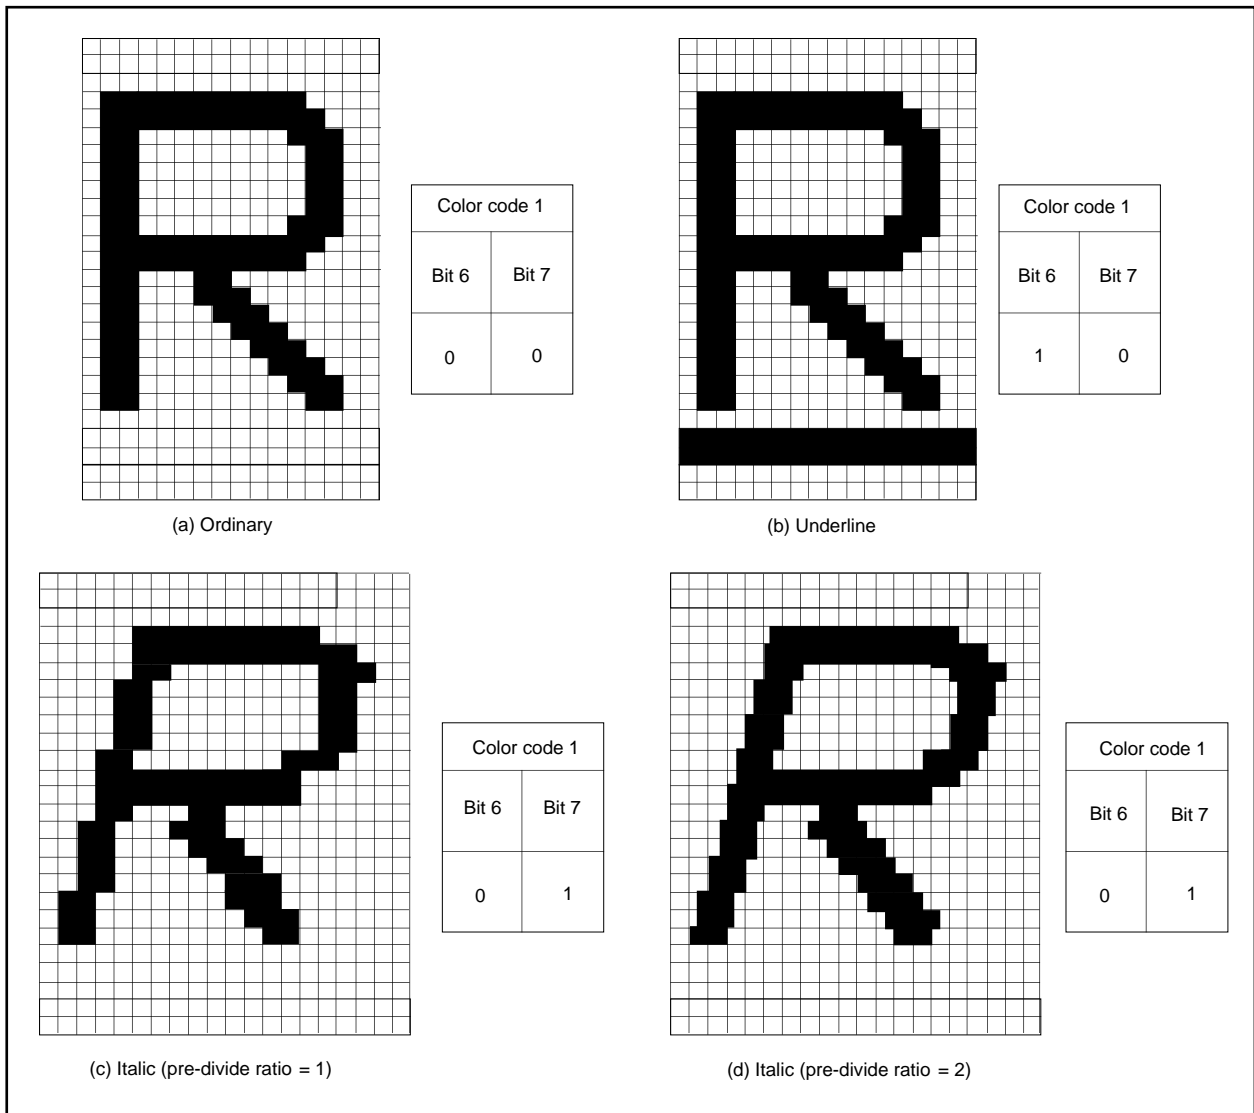

Fig. 74. Example of Attribute Display (in CC mode)
- 2:** When the pre-divide ratio = 1, the italic character with slant of 1 dot X 5 steps is displayed (refer to Figure 74 (c)). When the pre-divide ratio = 2, the italic character with slant of 1/2 dot X 10 steps is displayed (refer to Figure 74 (d)).